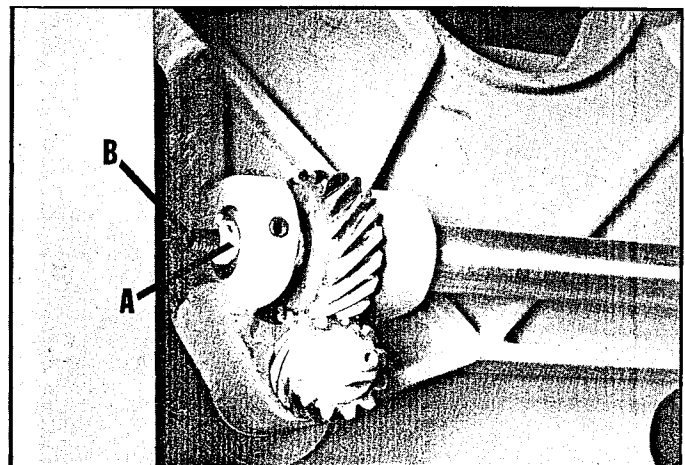

Fig. 60
2. End play in the bevel shaft can be removed by loosening nut (A) Fig. 60 and tightening screw (B). Retighten nut (A) after adjustment has been made.